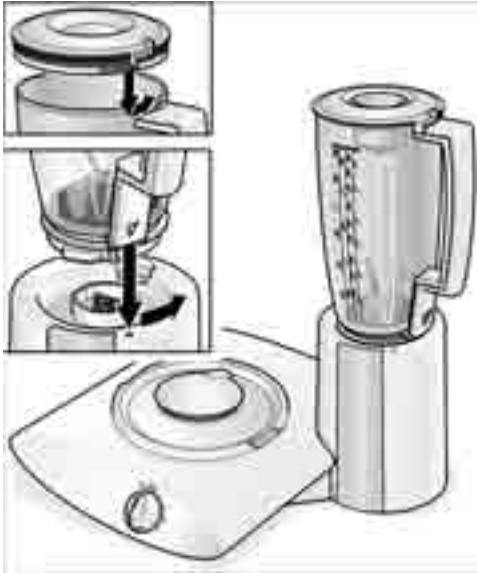

Figure 13
- Place the blender with cover on the high-speed drive of the power unit. Note the mark on the appliance and on the blender. Turn the blender counterclockwise with a slight downward pressure until the jar is firmly seated, see figure 13.